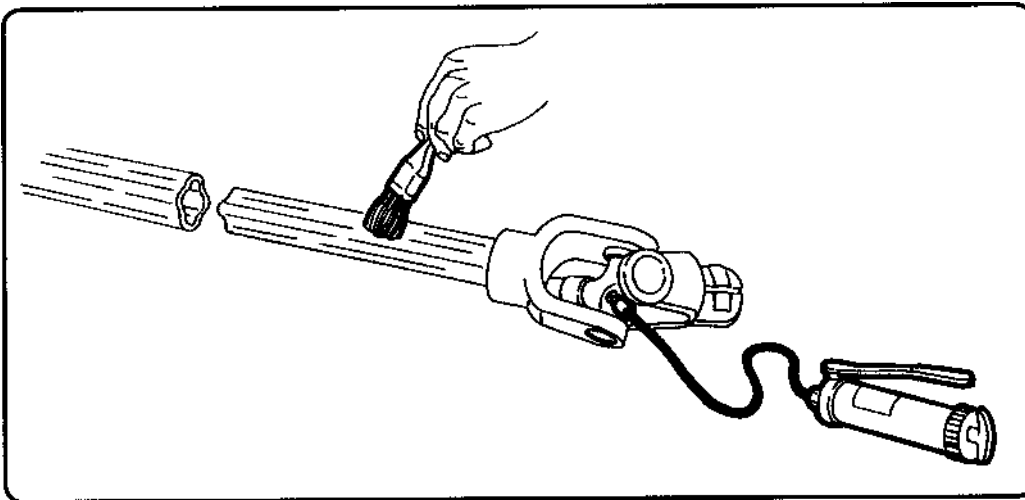

fig. 7.5.1
7.5.1 – Cleaning and greasing the driveline (fig. 7.5.1)